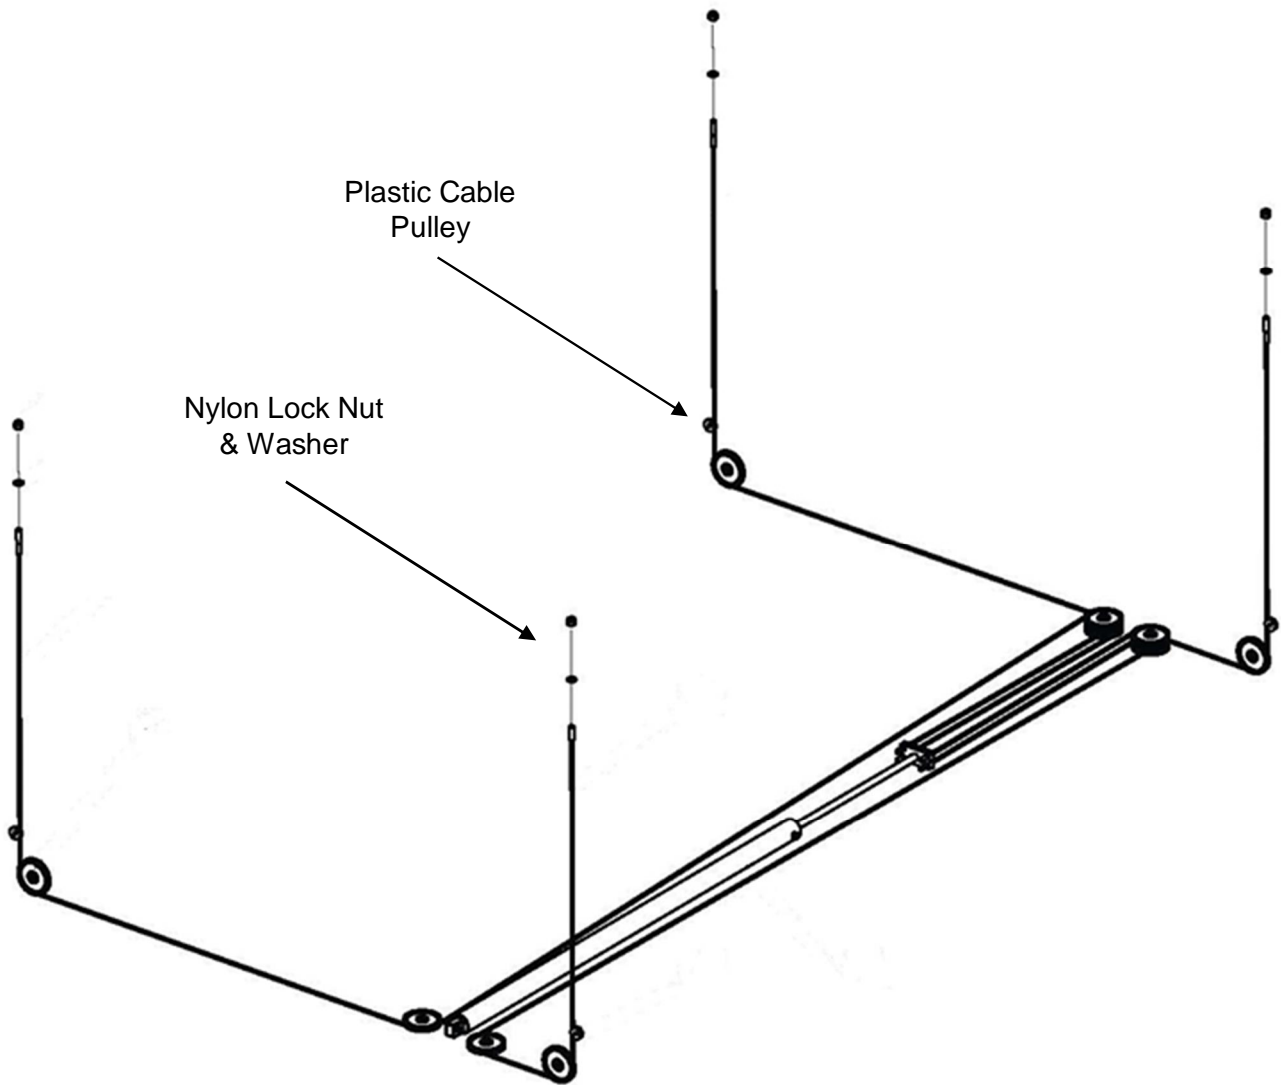

Fig. 7
17. Pull the slack for each Cable from the corner ends of the Mainside Runway and route the appropriate Cable(s) to each Column Top Caps, while ensuring that the Plastic Cable Pulley (#95) is between the Cable and the Lock Ladder as shown in Fig.7. This will allow the secondary Slack Cable Lock to function properly. See Fig.7 below for Cable routing installation.
24. Raise lift off all locks until cables are supporting the lift. Adjust the Cable's Nylon Lock Nut as shown in Fig 7, located on the top of each post until lift is level on crossbeams and runways. This will ensure the lift travels up and down level.